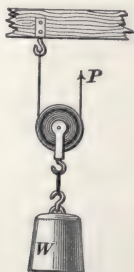
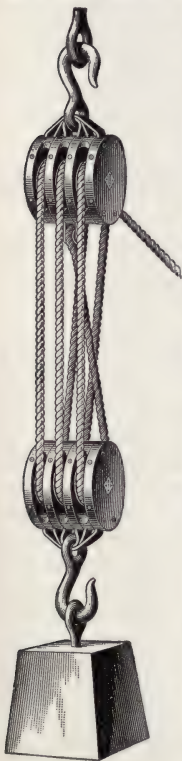

FIG. 29.
FIG. 31.
**72.** A **movable pulley** is one whose block is movable, as in Fig. 29. One end of the cord is fastened to the beam and the weight is suspended from the pulley, the other end
**73.** A **combination of pulleys**, as shown in Fig. 31, is sometimes used. In this case there are three movable and three fixed pulleys, and the amount of movement of  $W$ , owing to a certain movement of  $P$ , is readily found.
**EXAMPLE.**—In an ordinary block and tackle having six parts of the rope supporting the load, as shown in Fig. 31, how great a force must actually be applied to raise 2,000 pounds?
**77.** If the free end of the hauling rope passes first around a stationary sheave, as in Fig. 31, it does not make any difference in what direction in the plane of the sheave the rope is pulled. If it passes first around a movable sheave, however, as in Fig. 29, the pull must be exerted in a line parallel to the line of action of the resistance, or a line joining the